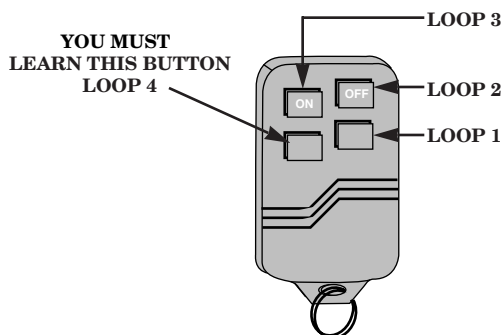

Figure 1: No. 5804 showing "loop" designations
Each No. 5804 is assigned a unique serial number during manufacture. Each button on the unit also has a distinct "loop" number that must be learned by the Control Panel during installation. Assign each button to an individual zone and designate the Input Type as "BR" (Button Type RF). You **must** learn the lower left-hand button (Loop 4, see Figure 1). If it is not learned, a "check" condition will occur when the button is accidentally pressed.
The unit can also be programmed by entering the serial number manually through the keypad or downloading it to the control panel using VLINK Downloading Software. If using one of these methods, be sure to include the loop number of each button (see Figure 1).
1. Holding the transmitter with the buttons face down, remove the case back by using the blade of a small screwdriver to pry open (see Figure 1).